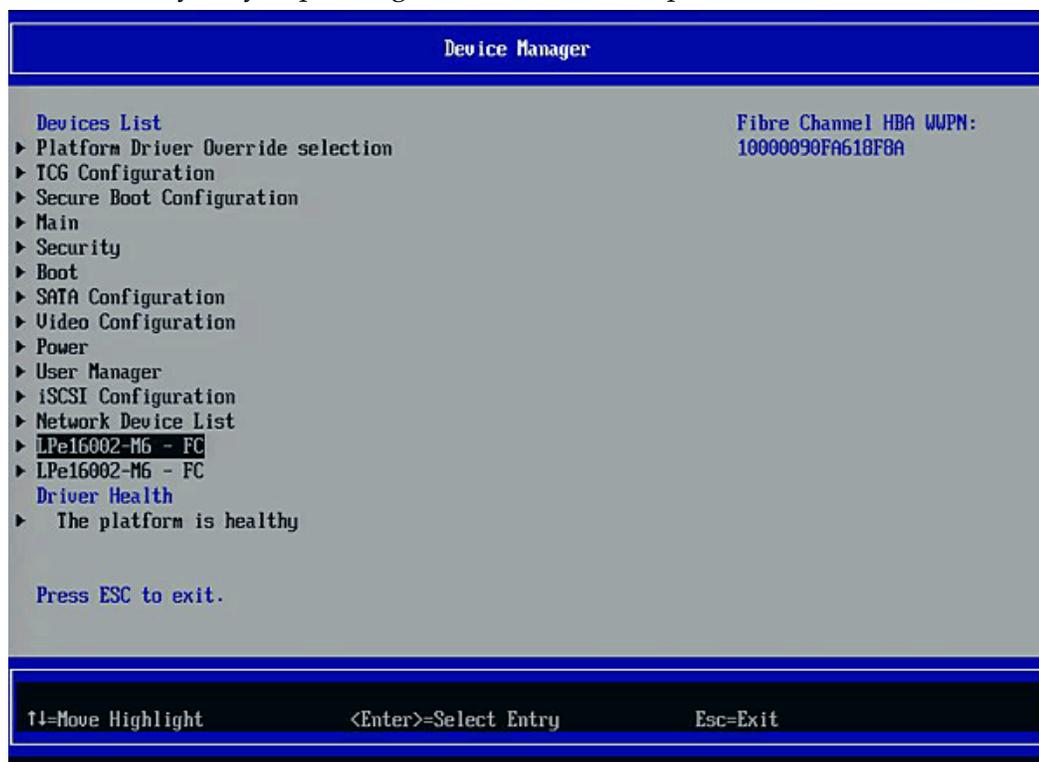

Figure 6-2 Device Configuration Screen Example
2. Select the menu item that allows you to configure devices. On the screen that appears (Figure 6-2 on page 51), a list of all the adapters in the system is displayed. Your list may vary depending on the installed adapters.
1. From the Adapter Selection screen (Figure 6-2 on page 51), select the adapter whose boot from SAN setting you want to change and press <Enter>.
1. From the Device Configuration screen (Figure 6-2 on page 51), select the adapter that you want to scan for Fibre devices and press **<Enter>**.
1. From the Device Configuration screen (Figure 6-2 on page 51), select the adapter to which you want to add a boot device and press **<Enter>**.
1. From the Device Configuration screen (Figure 6-2 on page 51), select the adapter from which you want to delete a boot devices and press **<Enter>**.